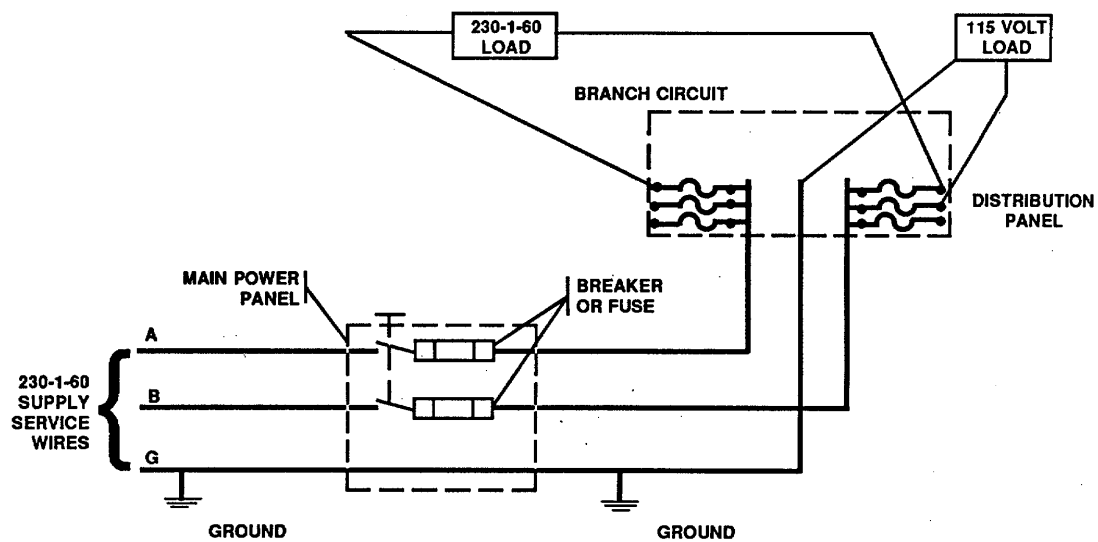

Figure 2-1. Voltage System, 115 and 230V/1 Ph/60 Hz.
(1) Three-Wire, Single Phase, 60 Hz.
- (a) FIGURE 2-1 shows power supply wires entering main electrical panel and then going to branch distribution panel or circuits.
- (b) If wires are identified in a 230/1/60 supply by A, B, and G, as in FIGURE 2-1, the voltmeter readings should be: